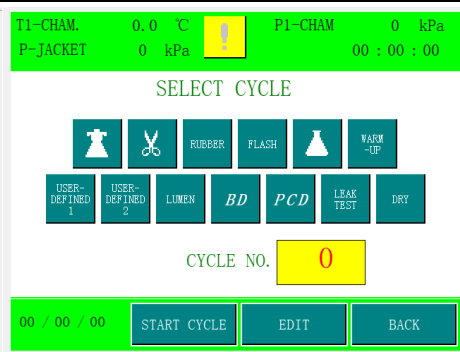
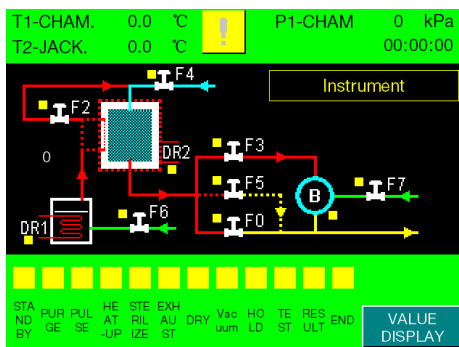

Fig.10
Fig. 15
(2) Parameter settings after logging in with different permissions:
- Supervisor: The supervisor can change the password of the supervisor. After logging in, the supervisor enters the program selection screen Fig.10. After selecting the program, click Edit to enter the Fig 7. The process can modify some parameters of the sterilization process as shown in Fig 7 and 8. The sterilization temperature, pulse count, sterilize temperature, chamber pressure limit (upper limit), cooling temperature and drying time can be changed. The stage configuration in Fig.7 belongs to the standard configuration of the device and does not need to be set up.
After logging in with different permissions, select the startup program, enter the program selection screen as shown in Fig. 10, and select the corresponding program. If you need to modify the parameters, click Edit to modify the parameters. If you do not need to modify, click Start directly, enter the startup parameter screen as shown in Fig. 11, and click the startup program again to enter the main process screen as shown in Fig. 15.
2) While the program is running, Click the numerical display button to monitor the running times and running time of each stage in real time from the screen, display the pressure and temperature in the sterilization chamber on the main process screen and display the current stage of the equipment, as shown in Fig. 15 (when the program is running or has been running, there is a light on the top of the stage, such as).